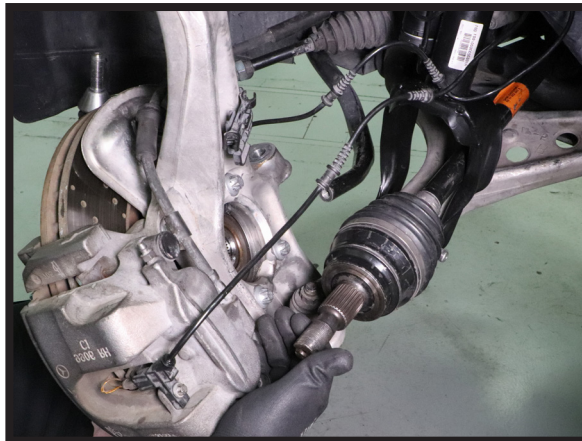

FIGURE 16
13. SEPARATE AXLE FROM FRONT WHEEL BEARING. (FIGURE 16)